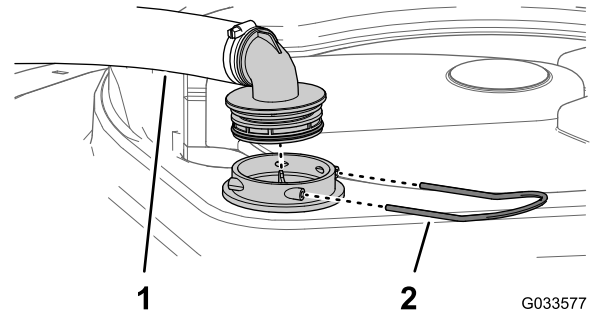

Figure 21
2. At the top of the sprayer tank, remove the retainer that secures the hose fitting attached to the large hose from the filter housing (Figure 21).
3. Remove the hose and hose fitting from the filter housing (Figure 21).